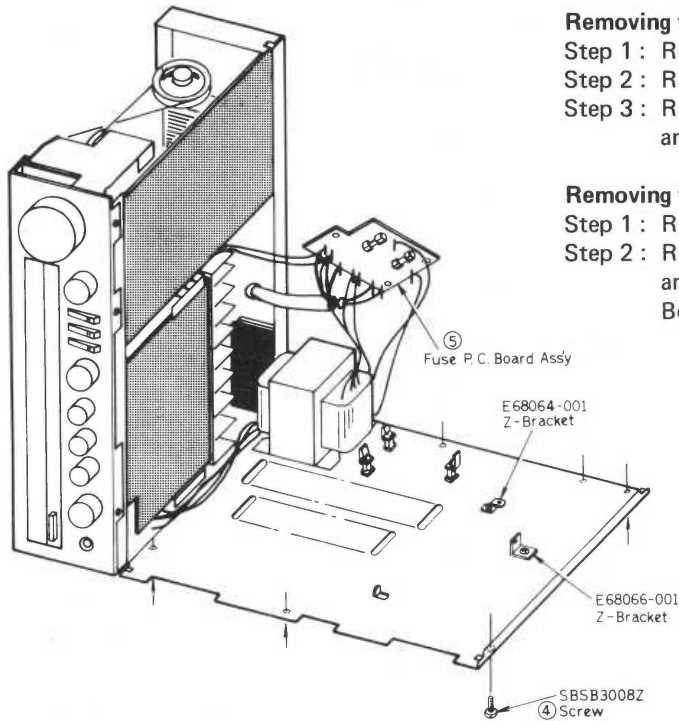

Fig. 4
- Step 2: Remove 7 screws ④. (Fig. 4)
- Step 3: Remove the Fuse P.C. Board Assy ⑤ and the replace the Bottom Plate.